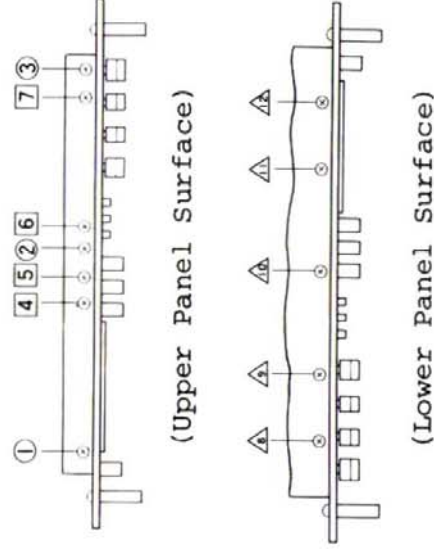

Fig. 2
- Fig. 2 show the upper panel surface
Fig. 2 shown the lower panel surface